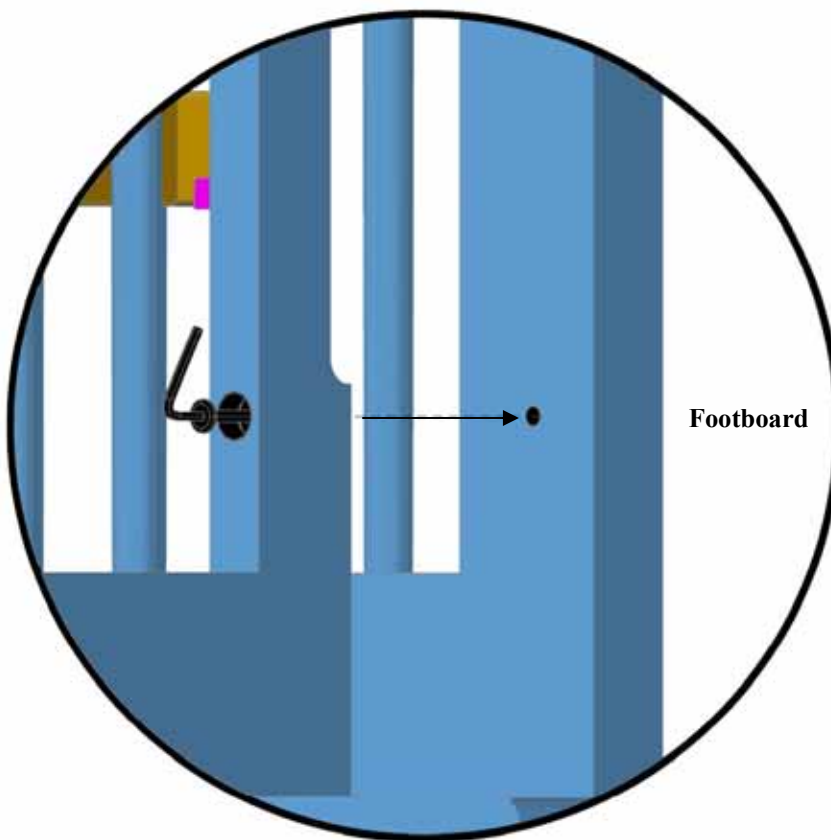

Figure 9.
See Figure 9.
- Using (4) 2 3/8" connector bolts, loosely attach the footboard as indicated in Fig 9.